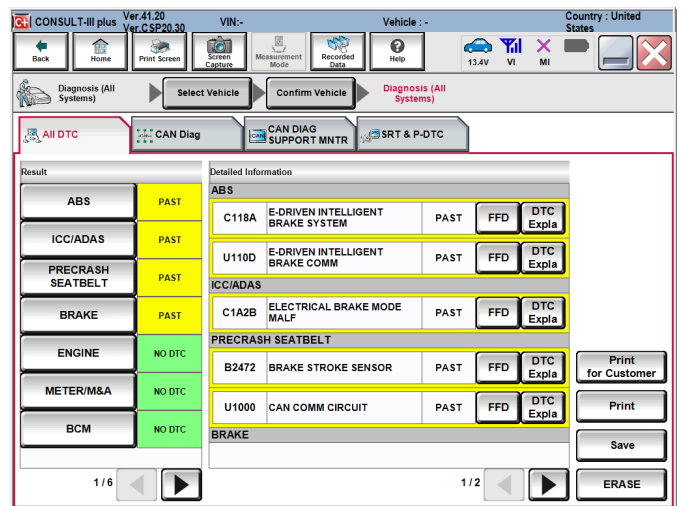

Figure 31
- While in "READY to drive" mode depress brake pedal for at least 5 seconds (all DTCs as shown in Figure 31 should now be PAST).